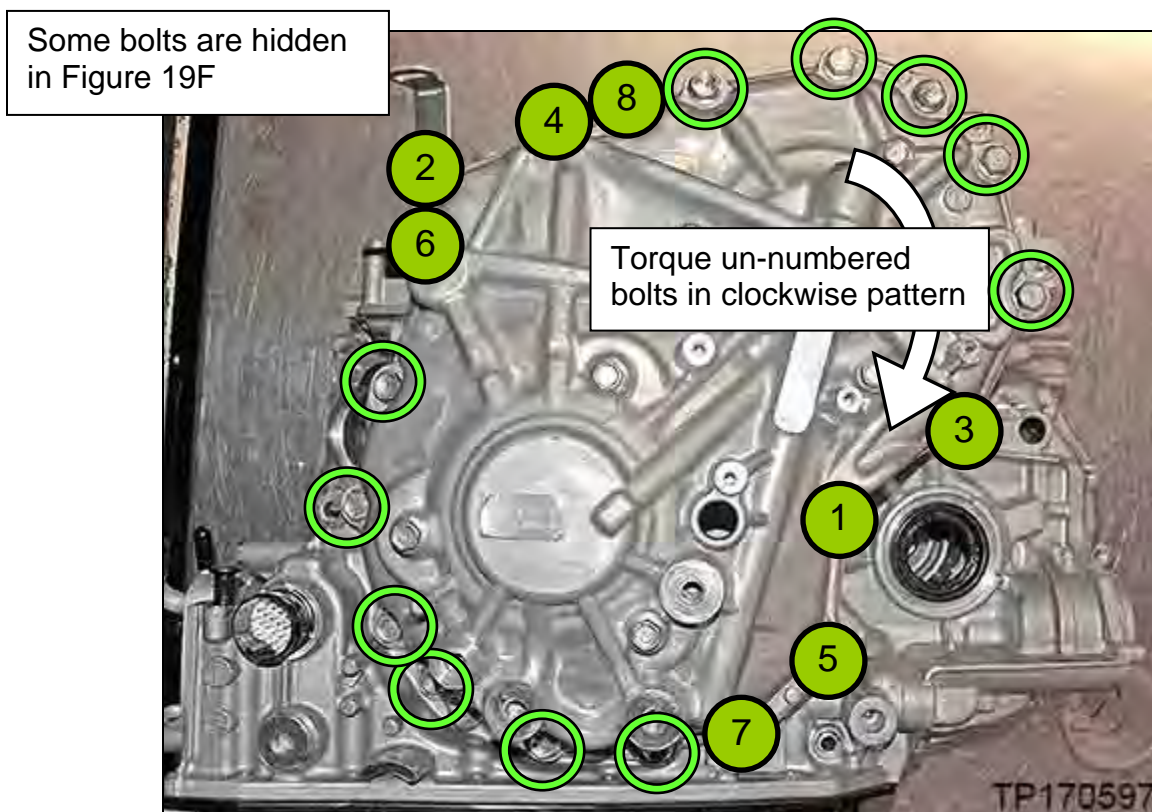

Figure 19F
13. Install the sub-assembly side cover with nineteen (19) new side cover bolts to the CVT case (Figure 19F).
- Torque the first eight (8) bolts marked as ● in the sequence numbered in Figure 19F below, and then torque the rest of the bolts in a clockwise manner.